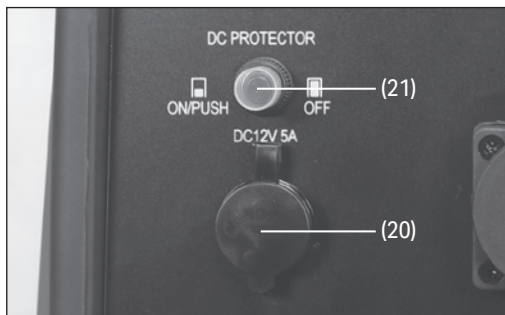

Fig. 13
7.5 Using the DC Outlet (Fig. 13)